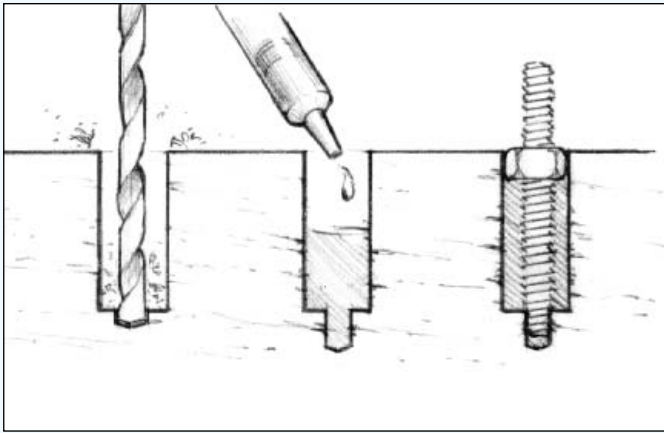

Figure 20
2. Place a nut and washer on the studs, wet out the lower ends and push them into the epoxy filled holes. Allow the epoxy to cure thoroughly before attaching hardware and tightening the nuts (Figure 20).